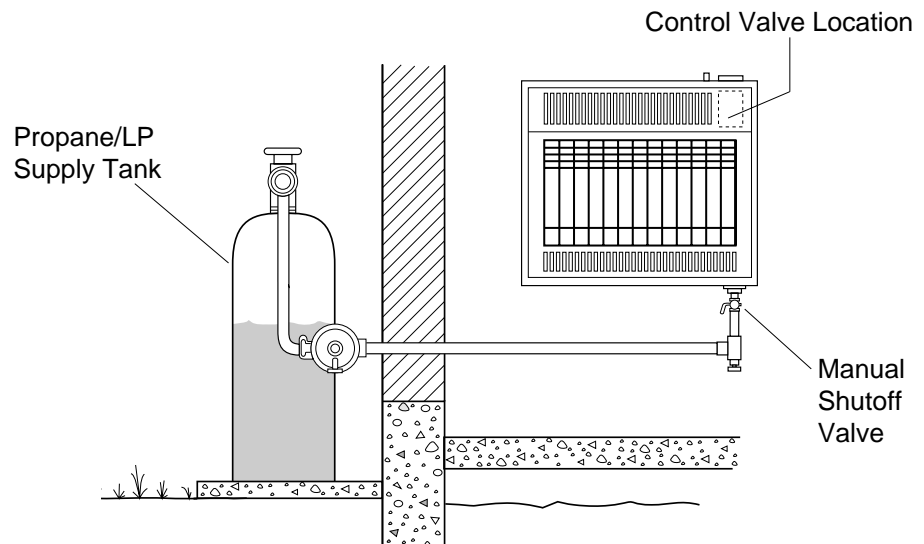

Figure 15 - Checking Gas Joints
3. Check all joints from propane/LP supply tank to manual shutoff valve (see Figure 15). Apply mixture of liquid soap and water to gas joints. Bubbles forming show a leak.
4. Check all joints from manual shutoff valve to control valve (see Figure 15). Apply mixture of liquid soap and water to gas joints. Bubbles forming show a leak.